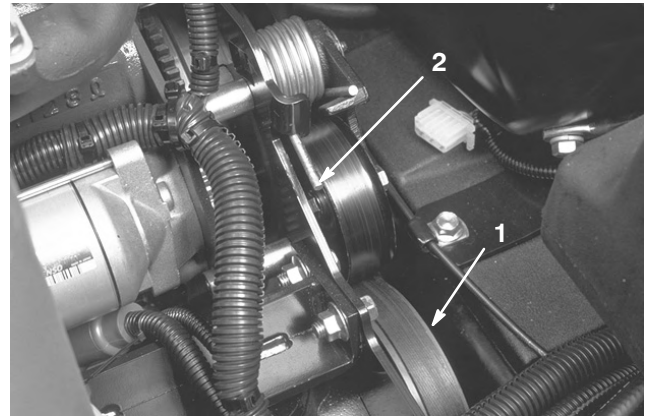

Figure 45
2. Push down and forward on the spring end (Fig. 45) to unhook it from the bracket and release tension on the spring.